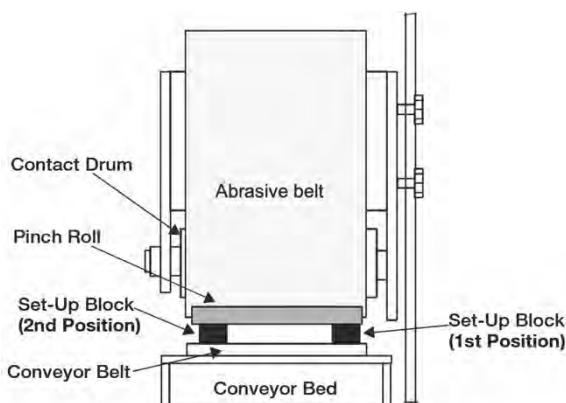

Figure 9-5: Placement of Set-Up Blocks for Pinch Roll Adjustment
3. Open the machine (lower the conveyor belt bed) and insert the set-up block between the abrasive belt and the conveyor belt (see Figure 9-5).
6. Insert the set-up block between one end of the pinch roll and the conveyor belt (see Figure 9-5).